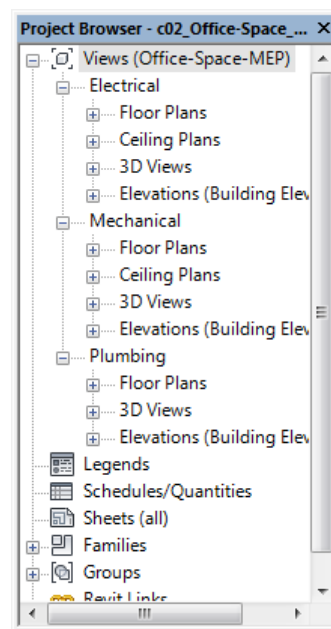

Figure 2-33 The Project Browser displaying the settings specified in the Office-Space-MEP browser organization
9. In the **View** tab of the **Browser Organization** dialog box, select the **Office-Space-MEP** check box. Now, choose the **Apply** button and then the **OK** button; the dialog box is closed and the specified settings are applied to the **Project Browser**, refer to Figure 2-33.